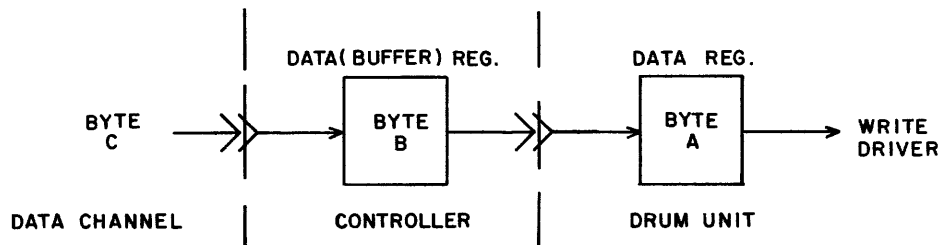

Figure A-6. Holding Registers During Write Operations
- 3) Figure A-6 shows holding registers during Write operations.